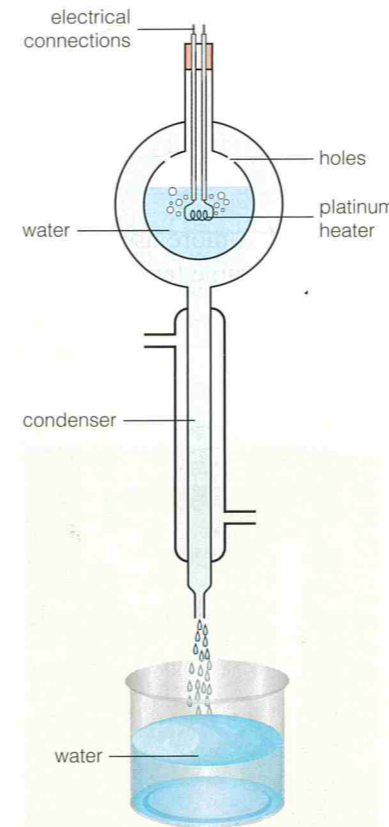

Figure 4.9 Apparatus for measuring the specific latent heat of vaporisation of water.
- The specific latent heat of vaporisation of a liquid (such as water) can be measured using the apparatus shown in Figure 4.9.